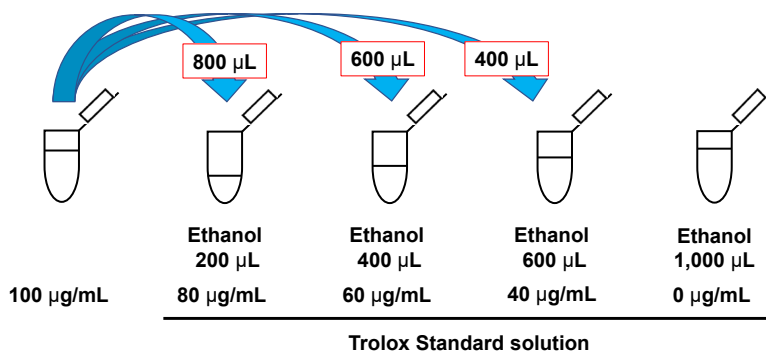

Figure 2. Preparation of the Trolox Standard solutions
3. Dilute the 100 µg/mL Trolox Standard solution prepared in step 2 with ethanol to make 80, 60, 40, and 0 µg/mL solutions (Figure 2).